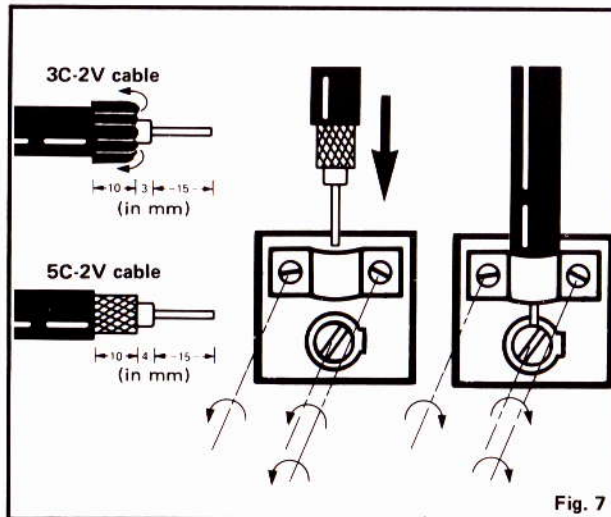

Fig. 7
- 75Ω antenna with coaxial lead (Fig. 7): Loosen the screws on the bracket and insert the cable into the ring from above. Then connect the stripped core to the lower screw terminal.